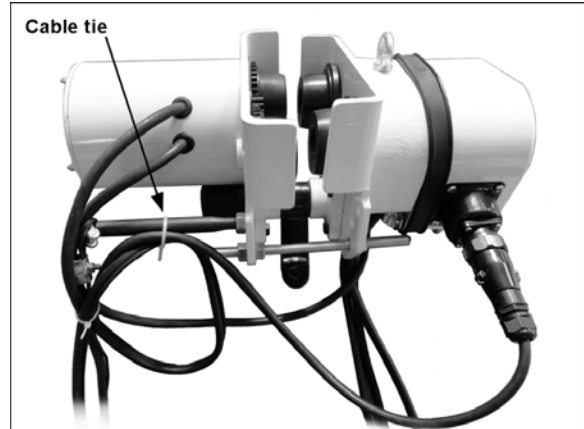

Figure 5
3. Attach the pendant cord to the cord holder. The cord must be secured to the cord holder in a way that relieves strain on the connections. One method of doing this is to form a loop in the pendant cord and place the cable tie as shown in Figure 5. Do not tighten the cable tie yet.